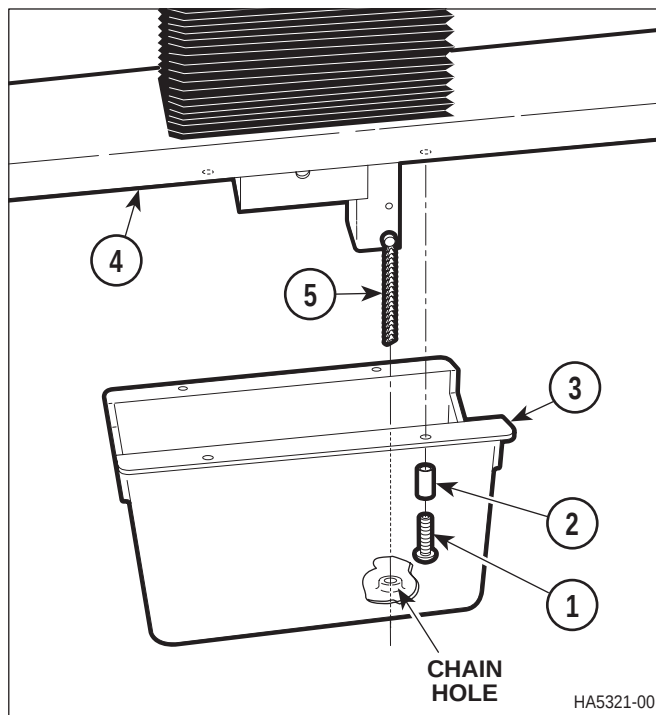

Figure 4-1. Lower Cover Removal / Installation
- (1) Remove four screws (1, Figure 4-1), spacers (2), and lower cover (3) from chassis (4).